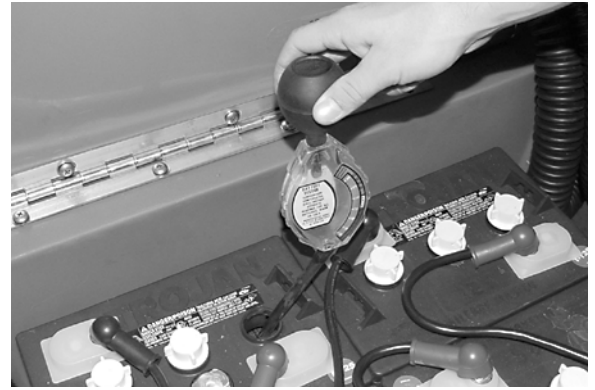

FIG. 42
1. Check the specific gravity using a hydrometer to determine the charge level and the condition of the batteries (Figure 42). If one or more of the battery cells read lower than the other battery cells (0.050 or more), the cell is damaged, shorted, or is about to fail. Check the hydrometer readings against the following chart to determine the remaining battery charge level.